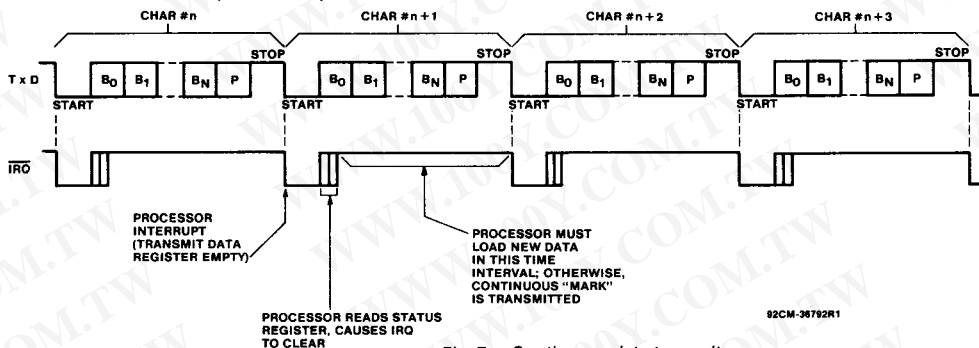

Fig. 7 - Continuous data transmit.
**Continuous Data Transmit (Fig. 7)**